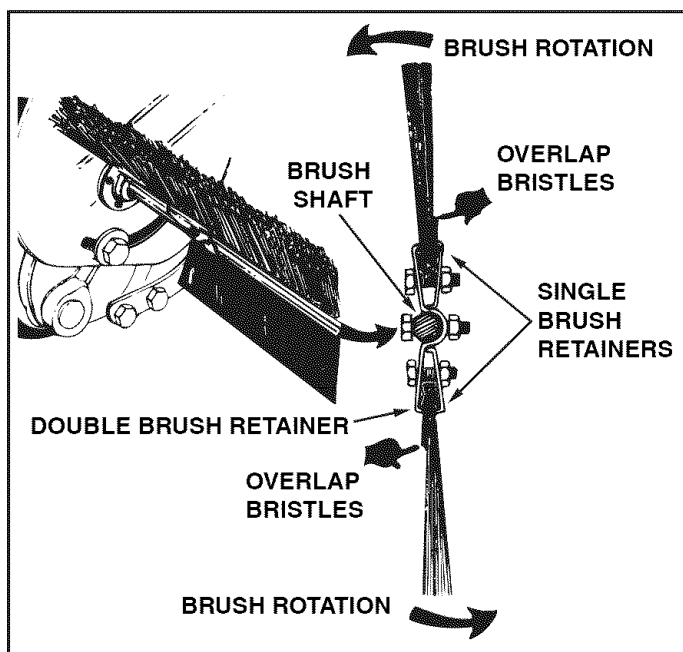

FIGURE 23
- Loosen the hex bolts and lock nuts on two single brush retainers which clamp one brush to the double brush retainers. **Do Not loosen** or remove the bolts which fasten the double brush retainers to the brush shaft. See figure 23.
- Slide the brush out of the retainers, noting on which side of the brush the bristles overlap. See figure 23.
- Install new brush, making sure the bristles overlap on the same side of the brush as before. See figure 23.